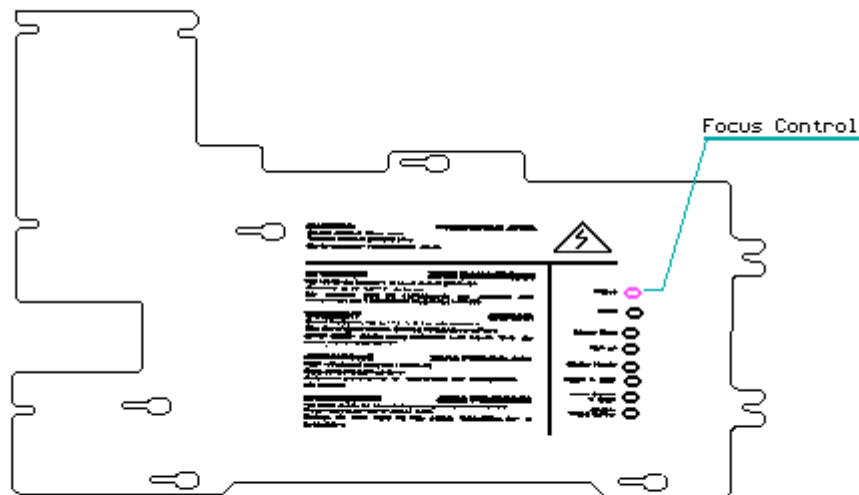

Figure 8-23. Adjusting the Focus Control
10. If the characters on your display are not sharp and clear, a focus adjustment is necessary. Using a plastic adjustment tool, adjust the potentiometer labeled FOCUS until all characters are clear and sharp (Figure 8-23).